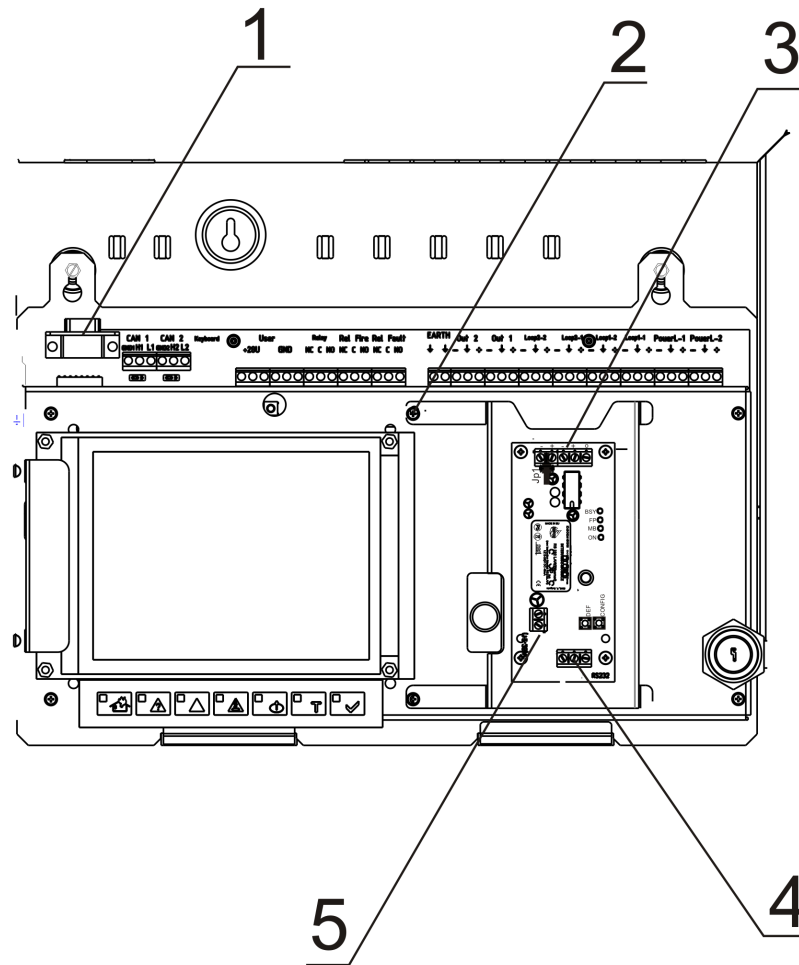

fig.1.3
- Mount the device on the front side of the panel, next to the display (fig.1.3);
- Unscrew the screw of the front metal cover – fig.1.3, pos.2;
- Connect the Master Modbus unit to the RS485 connector (fig.1.3, pos.3) of the UniPOS BMS module;